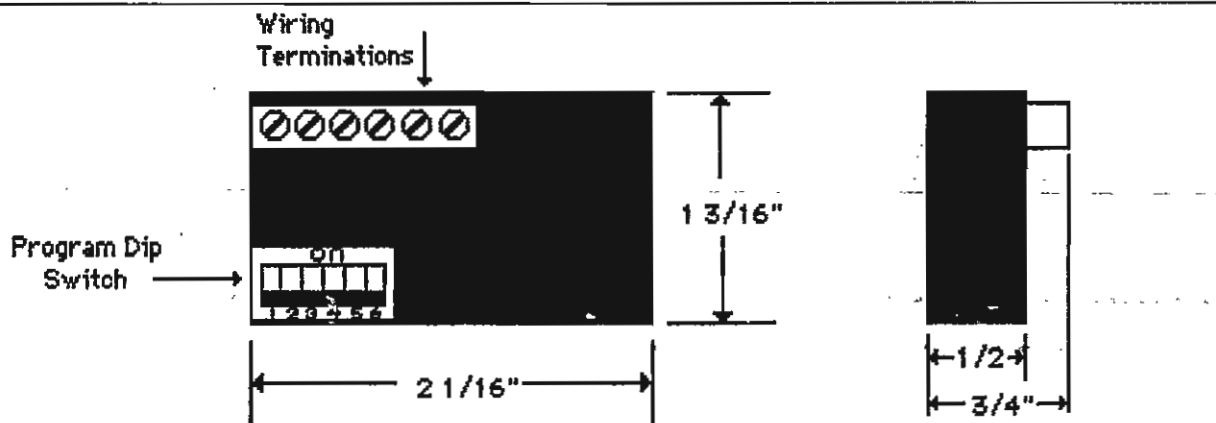

FIGURE 1. MODEL 3261 DIMENSIONS
5. Locate the program dip switch on the 3261 module (see Figure 1.). Set the program dip switch according to the settings in Table 1. Incorrect dip switch settings will result in incorrect output voltage readings.